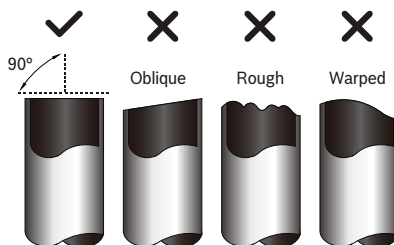

Figure 12
3. Make sure that the pipe is cut at a perfect 90° angle. Refer to Fig. 12 for cut examples.